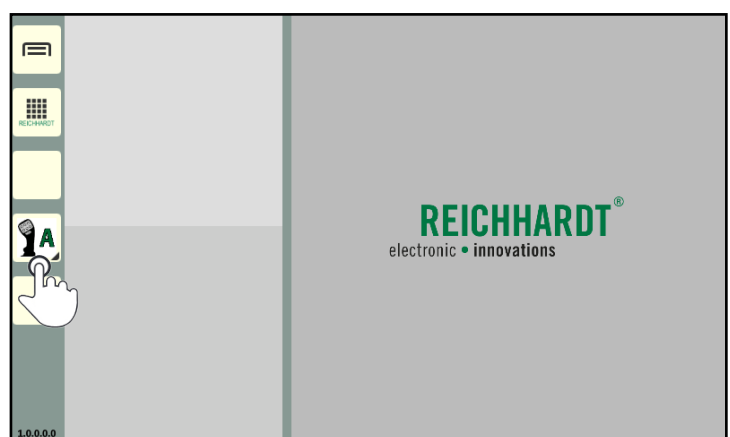

Fig. 46: Tapping a shortcut the sidebar
- a shortcut in the sidebar (see Fig. 46).